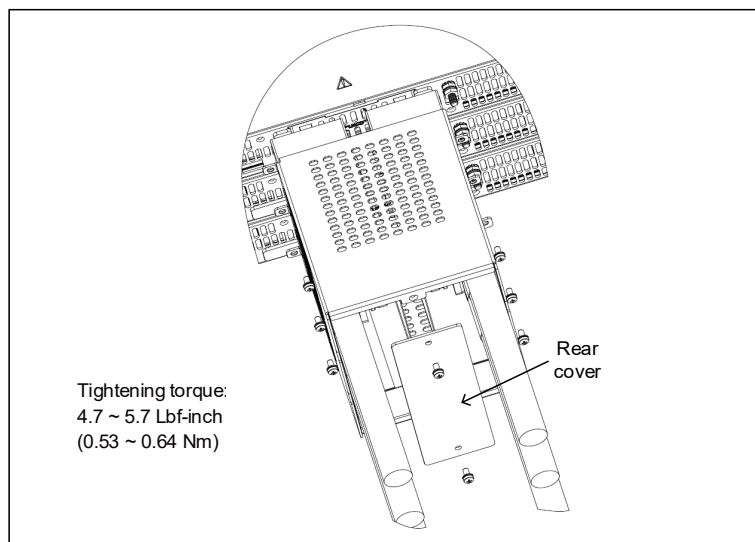

Figure 4-25: Assembly of 20V ÷ 40V Wires Protection Cover
5. Assemble the bus bars protection assembly to the rear panel of the power supply, by using 6 M3x6 Sems screws, as shown in Figure 4-25 (15kW is shown, it applies to 10kW as well. For 10kW, there are 4 screws only).
6. Assemble the rear cover of the bus bars protection assembly, by using 2 M3x6 Sems screws, as shown in Figure 4-25 (15kW is shown, it applies to 10kW as well. For 10kW, there are 4 Bus bar protection cover screws only).